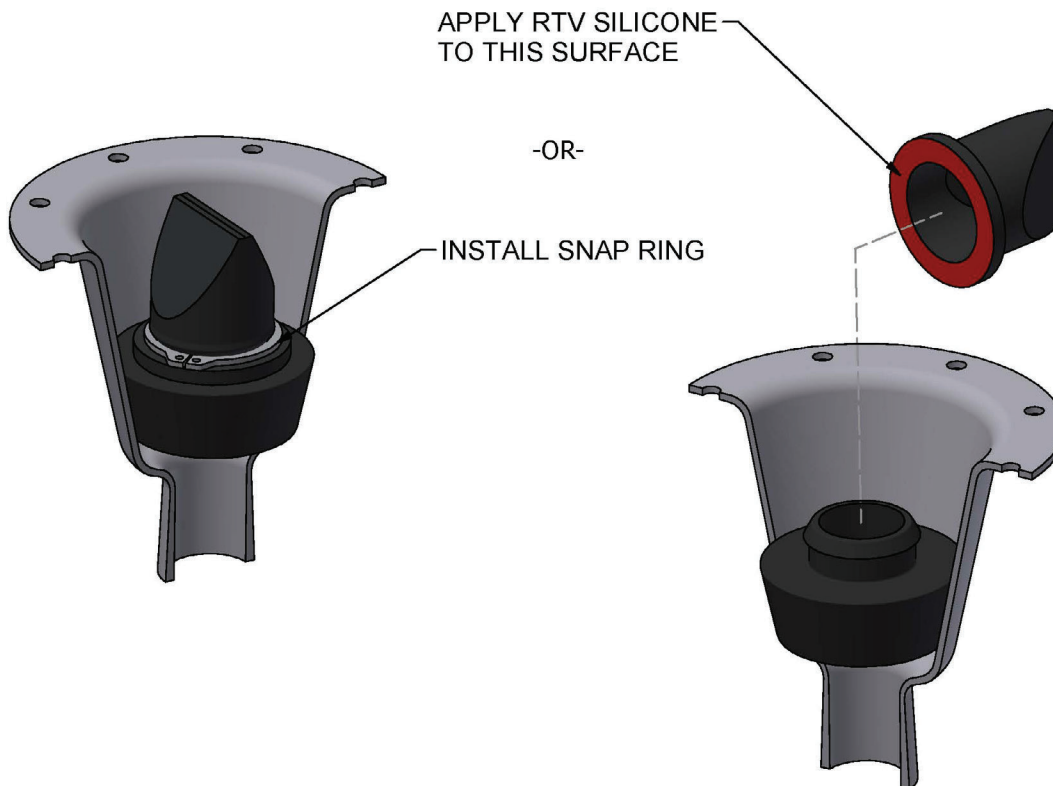

Figure 2 – Optional Retention Measures
2. (OPTIONAL) Additional measures for retention of duckbill valve (see Figure 2):